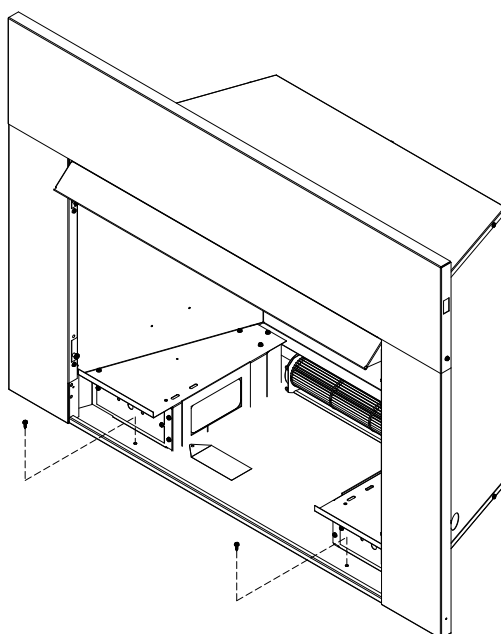

Figure 16. Secure Firebox to Floor or Hearth
3. Secure the firebox with two anchoring screws ($\frac{3}{16}$ " x $1\frac{1}{2}$ " length) supplied with the fireplace system. **Figure 16.**